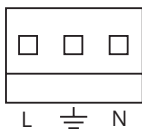

Figure 5
- Connect the power supply wires to the special three-pin terminal block marked LNE shown in Figure 5 (Live, Neutral, Earth), observing the polarity.